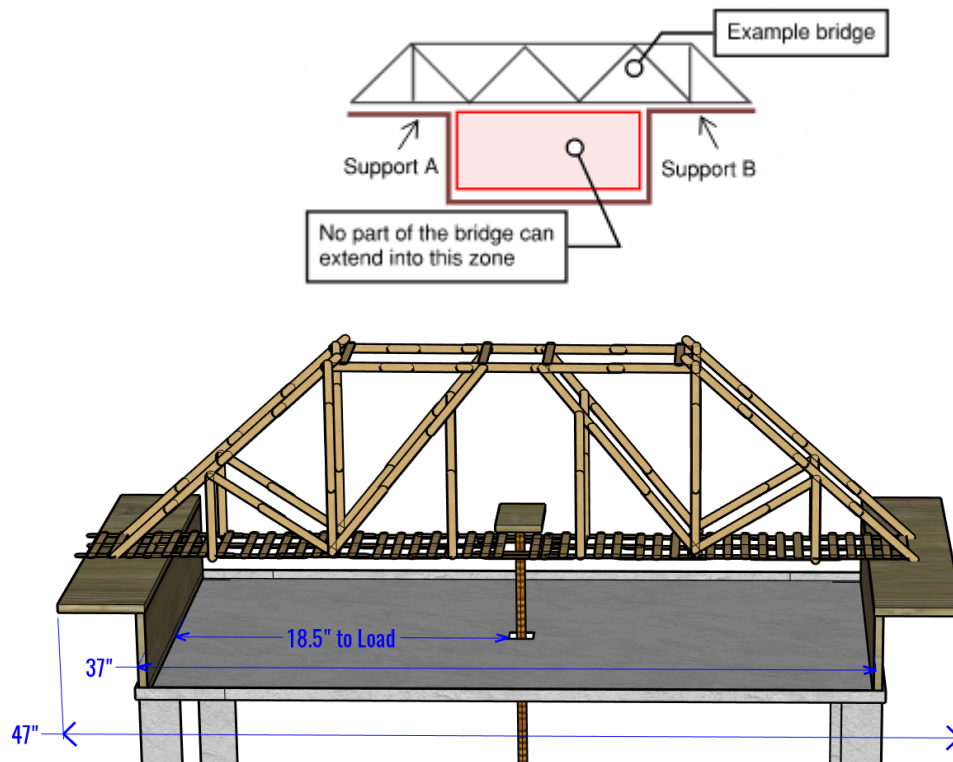

Figure 4 - Profile view of the bridge (not to scale)
- Bridge loading machine supports a minimum span of 37" and a maximum span of 47" See Figure 4 below.